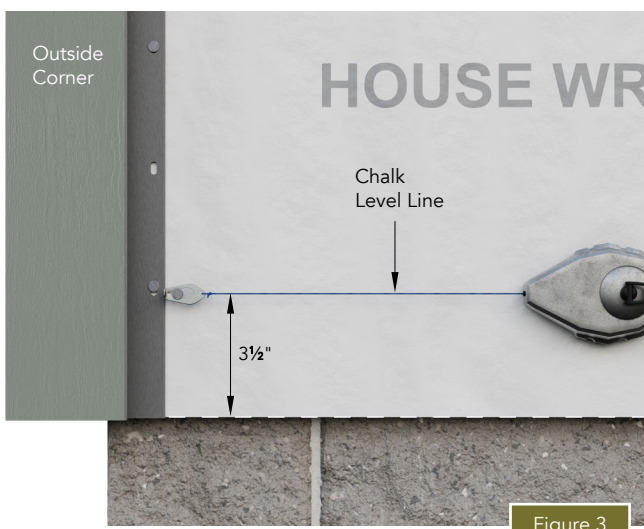

Figure 3
- Measure and chalk a level line 3½" up from the lowest point of the wall (Figure 3).